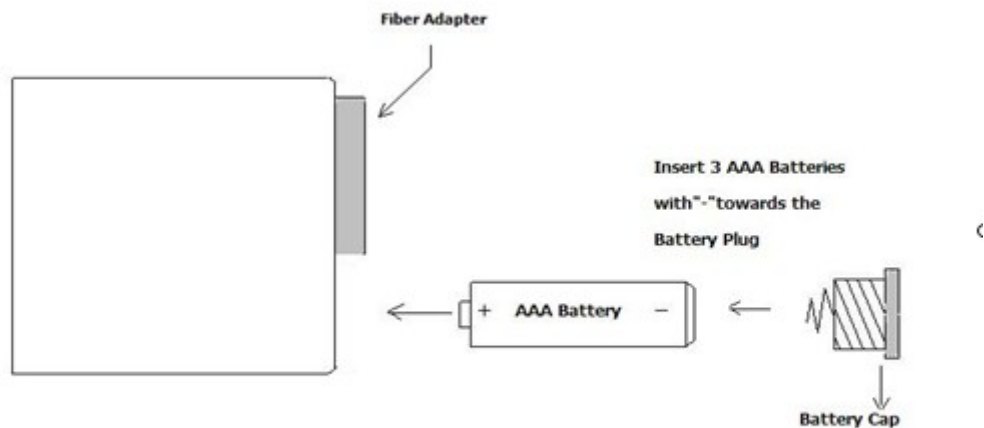

Figure 2
2. You'll need to insert 3AAA batteries .Unscrew and remove the "Battery Cap".Insert the batteries with the "-"side up towards the Battery Plug;"+" side down towards the Light Switch (see Figure 2).Replace the Battery Cap and tighten.